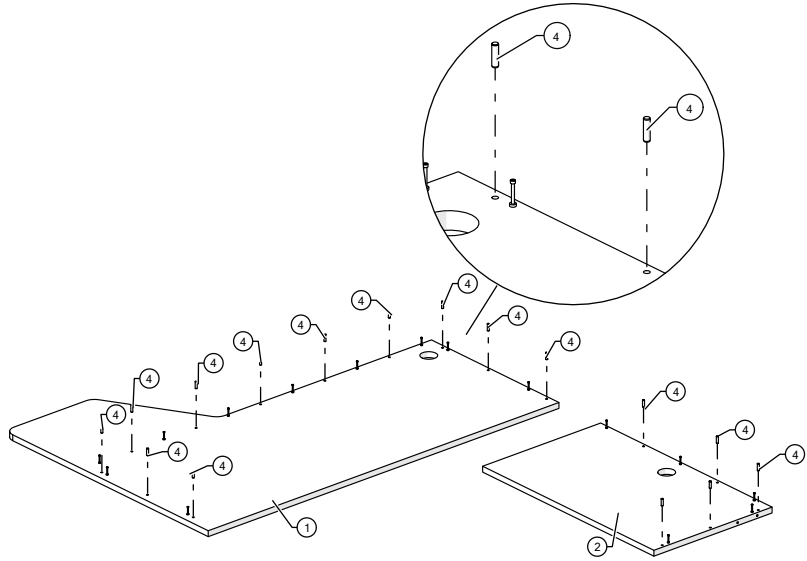

Figure 3
3. Push the wooden dowels into the pre-drilled 8 mm holes of the worksurfaces and then lightly tap with a rubber mallet to hold them firmly (Figure 3).